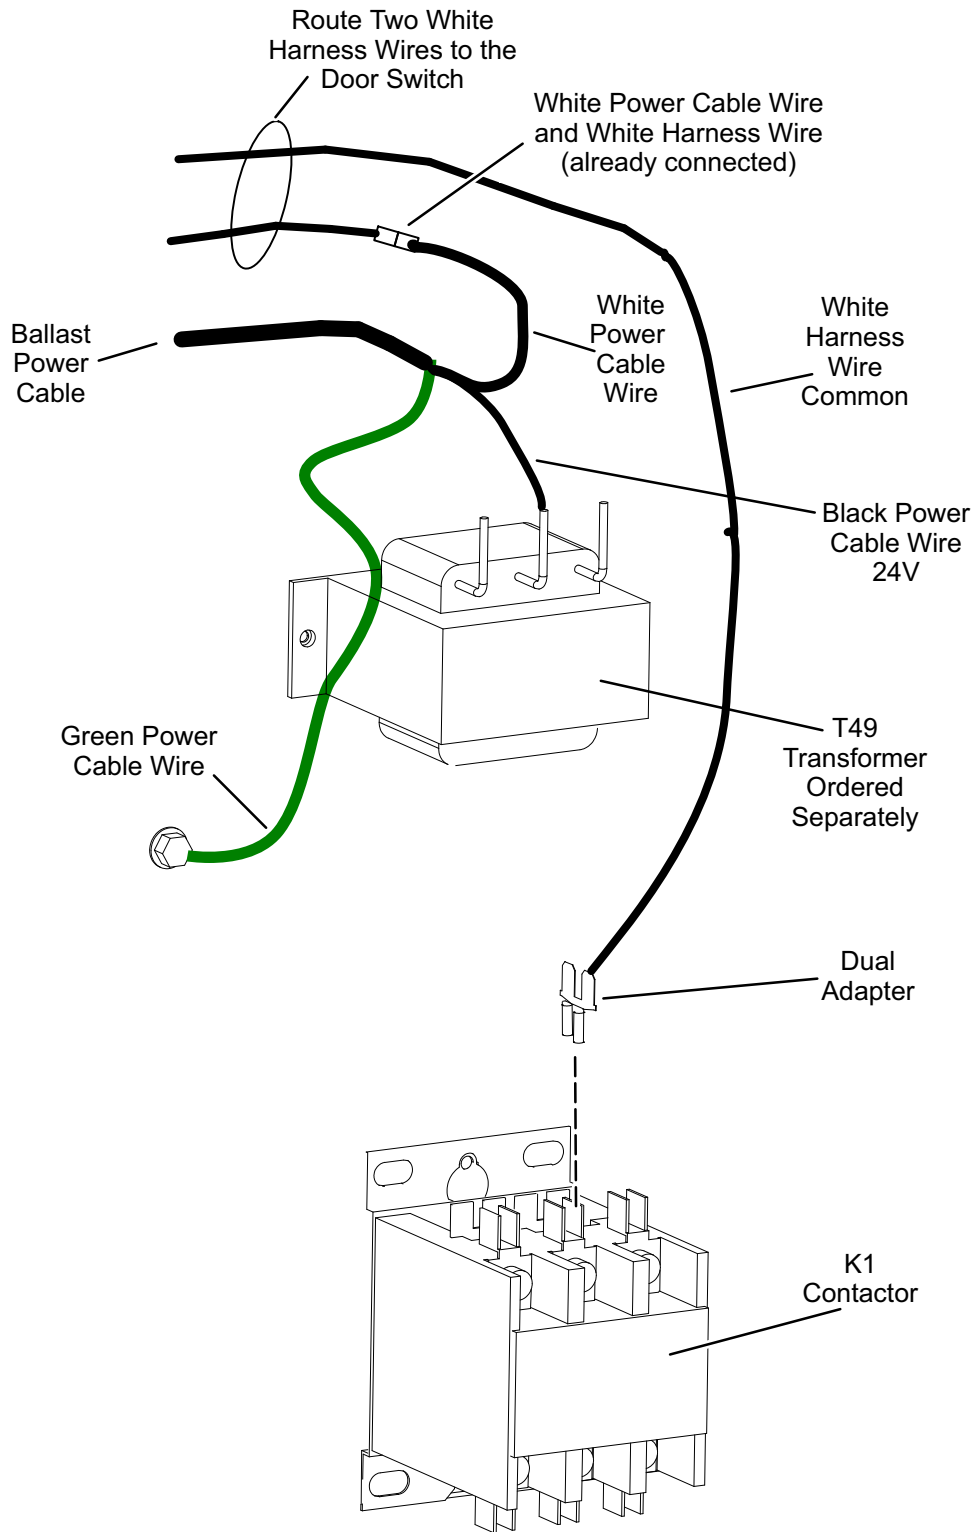

FIGURE 9
- Figure 9 - 460/575V LGH/LCH/KG/KC/KH with T49